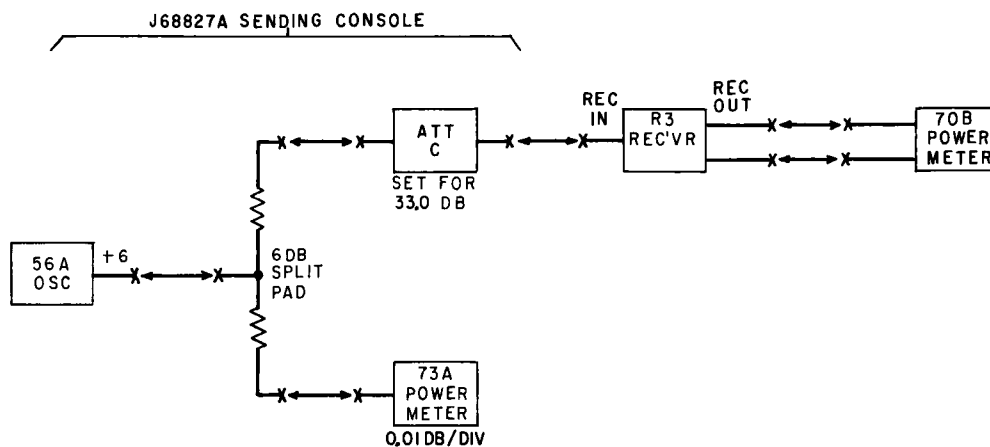

Fig. 9 - Arrangement for Measuring Receiver Characteristic
- (1) Operate the POL DIS key located in the jack field to TST position.
- (2) Set up test arrangement shown in Fig. 9.
- (3) Set up the 70B power meter for 124 ohms and calibrate for 1 volt P/P.